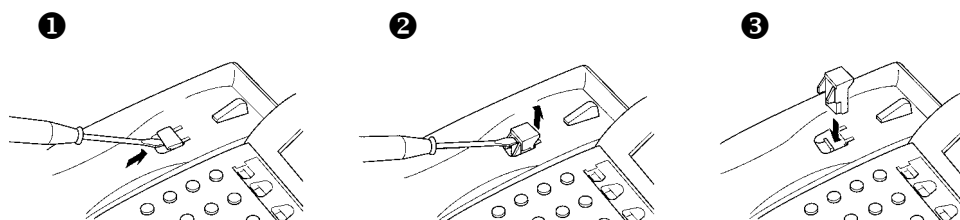

Figure 6-16: Positioning the Handset Hanger
- Install it back in its original position so that the hanger protrudes providing a rest for the handset. (This procedure applies when using either the base unit or the WMU-UA Unit.) Refer to *Figure 6-16: Positioning the Handset Hanger* for the steps for removing and remounting the handset hanger.